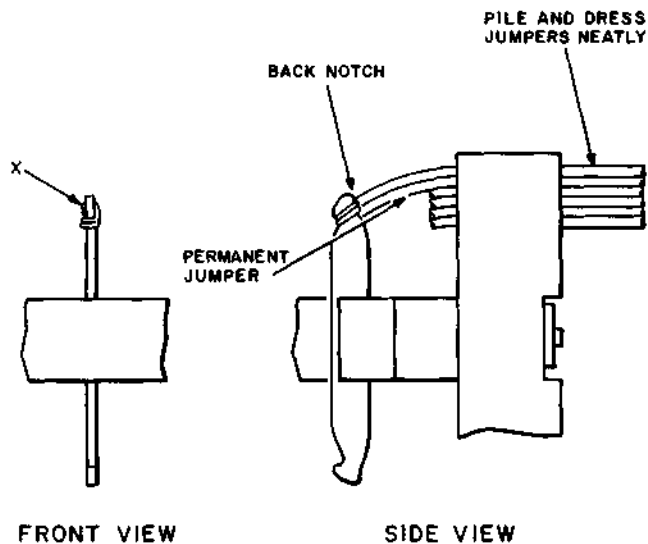

Fig. 17—Temporary Cross-Connections on No. 35 or Similar Type Terminal Strip With Back Notch Terminals
12.08 Connect the temporary jumper as shown in Fig. 17. Bring the wire along the top of the permanent jumper, through the notch along the right side of the terminal, and through the back notch. Break the excess wire at point "X". 20-gauge wire should be cut instead of broken.